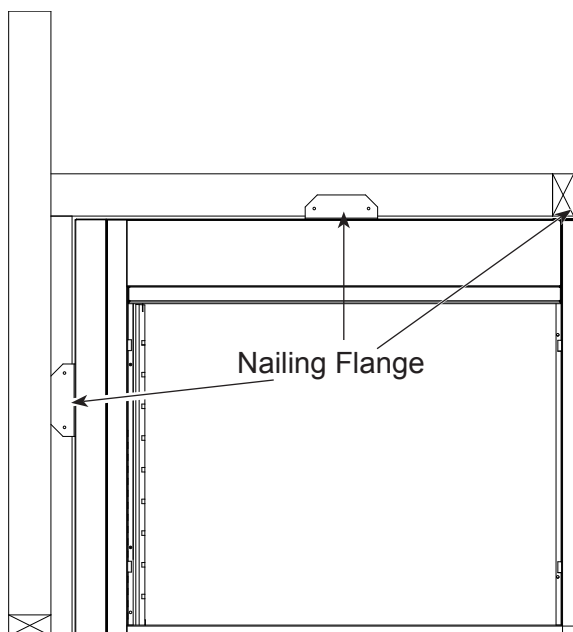

Figure 15 - Location of Nailing Flanges and Floor Screws
4. Attach nailing flanges to studs. **See Figure 15.**